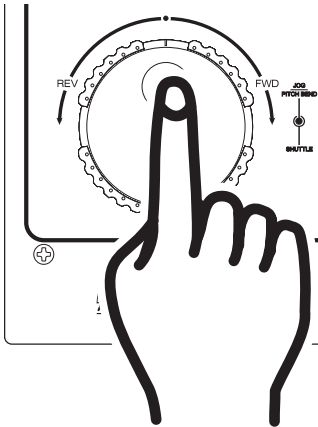

Figure 19
This function will increase or decrease a tracks playback speed or "PITCH," this is not a momentary change as in "PITCH BENDING" (see page 19). The maximum pitch bend percentage allowed is $\pm 16\%$. The *PITCH SLIDER* (21) is used to decrease or increase the playback pitch. If the slider is move up (towards the top of the unit) the pitch will decrease, if the slider is moved down (towards the bottom of the unit) the pitch will increase. The *PITCH SLIDER* (23) adjustment can be changed to range from $\pm 8\%$, $\pm 12\%$, or $\pm 16\%$ (See changing "PITCH SLIDER PERCENTAGE RANGE" figure 19/page 20). The pitch adjustments will effect playback, reverse playback, and loops.